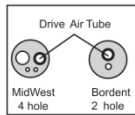

Fig. 18
4) Insert the Tip Nozzle into the Drive Air Prot of the handpiece. Hold the handpiece and spray for approximately 2-3 seconds. Apply lubricant until it expels from the handpiece head for at least 2 seconds (Fig.18, 19).